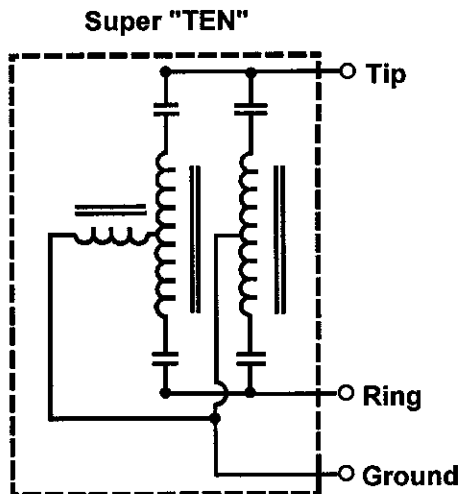

Figure 4: Super TEN
4.05 The Super TEN (Fig. 4) is a combination HDR/TEN. The HDR and TEN are bridged together and arranged to take advantage of the unique properties of each.